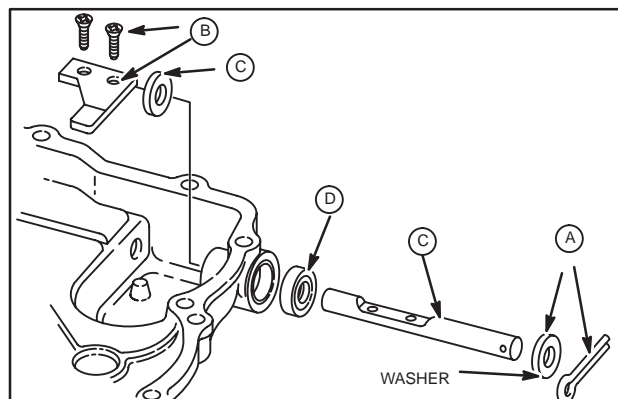

Fig. 11 – Remove Governor Shaft
1. Remove governor shaft, Fig. 11.